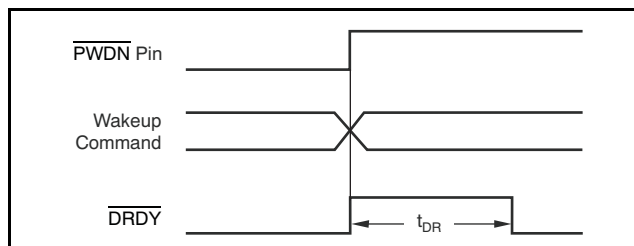

Figure 50. PWDN Pin and Wake-Up Command Timing
In power-down, note that the device outputs remain active and the device inputs must not float. When the Standby command is sent, the SPI port and the configuration registers are kept active. Figure 50 and Table 12 show the timing.
(1) See Figure 50 and Table 12 for time to new data.